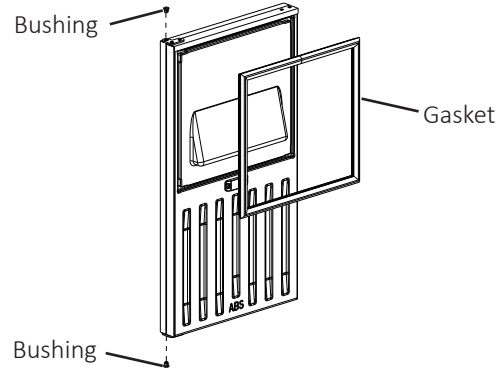

Fig. 20
- 8) Replace the door gasket in its proper orientation. Reinsert the bushings into hinge (C1) and hinge (C2) (the hinges attached to the door) (See Fig. 20).